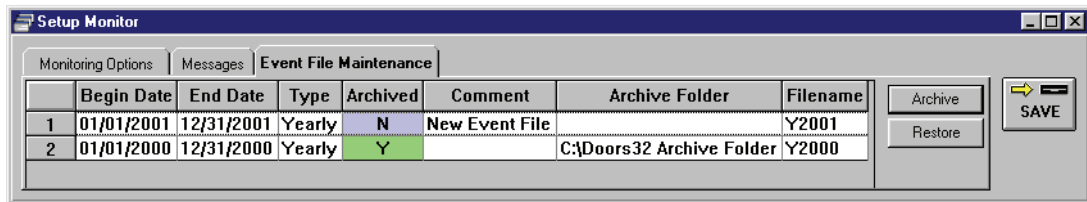

Figure 5-19: Completed Archive
- Click on the  button. The Event File Maintenance window should look similar to Figure 5-19.